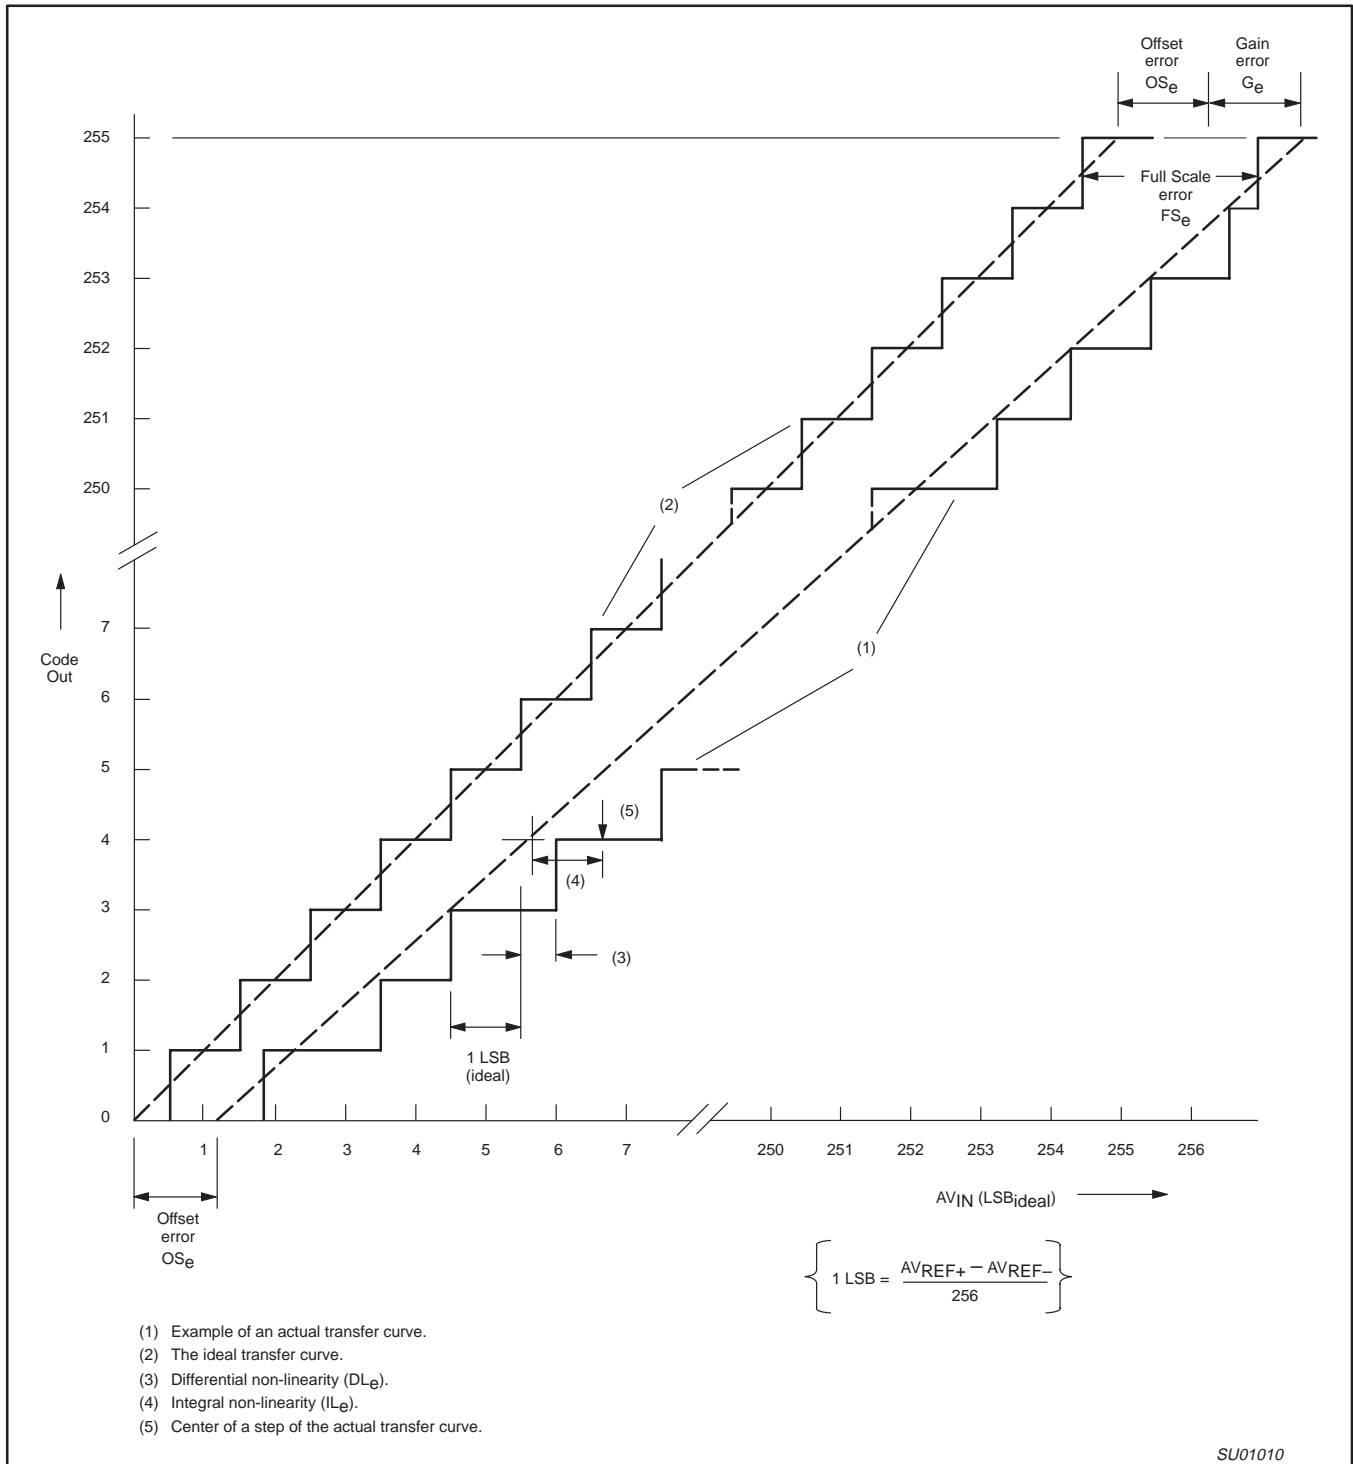

Figure 25. ADC Conversion Characteristic
2. The differential non-linearity (DL_e) is the difference between the actual step width and the ideal step width. See Figure 25.
4. The integral non-linearity (IL_e) is the peak difference between the center of the steps of the actual and the ideal transfer curve after appropriate adjustment of gain and offset errors. See Figure 25.
5. The offset error (OS_e) is the absolute difference between the straight line which fits the actual transfer curve (after removing gain error), and the straight line which fits the ideal transfer curve. See Figure 25.
6. The gain error (G_e) is the relative difference in percent between the straight line fitting the actual transfer curve (after removing offset error), and the straight line which fits the ideal transfer curve. Gain error is constant at every point on the transfer curve. See Figure 25.
- The differential non-linearity (DL_e) is the difference between the actual step width and the ideal step width. See Figure 25.
- The integral non-linearity (IL_e) is the peak difference between the center of the steps of the actual and the ideal transfer curve after appropriate adjustment of gain and offset errors. See Figure 25.
- The offset error (OS_e) is the absolute difference between the straight line which fits the actual transfer curve (after removing gain error), and the straight line which fits the ideal transfer curve. See Figure 25.
- The gain error (G_e) is the relative difference in percent between the straight line fitting the actual transfer curve (after removing offset error), and the straight line which fits the ideal transfer curve. Gain error is constant at every point on the transfer curve. See Figure 25.